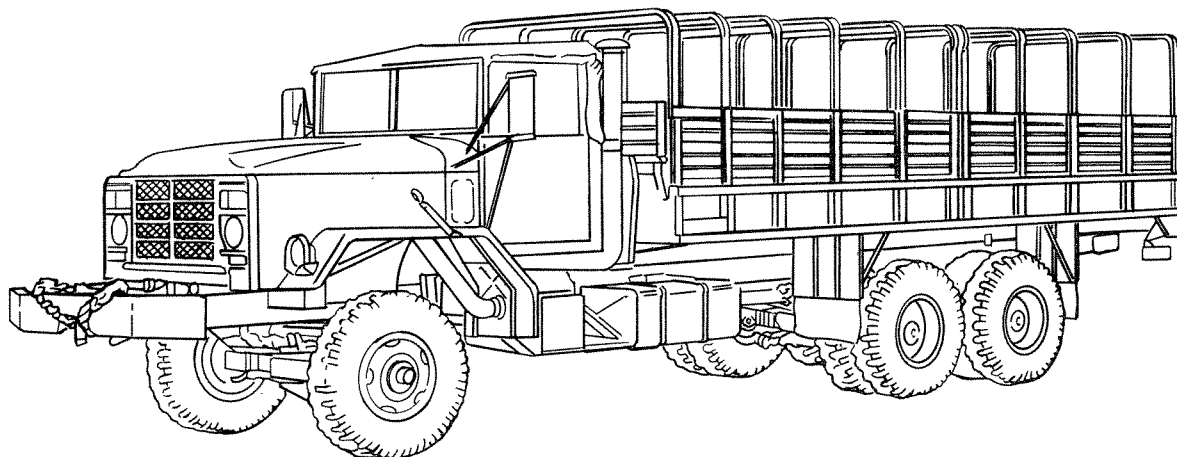

Figure 2-19. M928 Cargo Truck
c. *M928 Cargo Truck.* The M928 is a 5-ton, 6x6, extra-long wheelbase (XLWB) diesel-powered cargo truck. The PCC and RSGF are mounted on M928 cargo trucks. For more information on the M928 truck, see TM 9-2320-272-10. Figure 2-19 shows the M928 cargo truck.